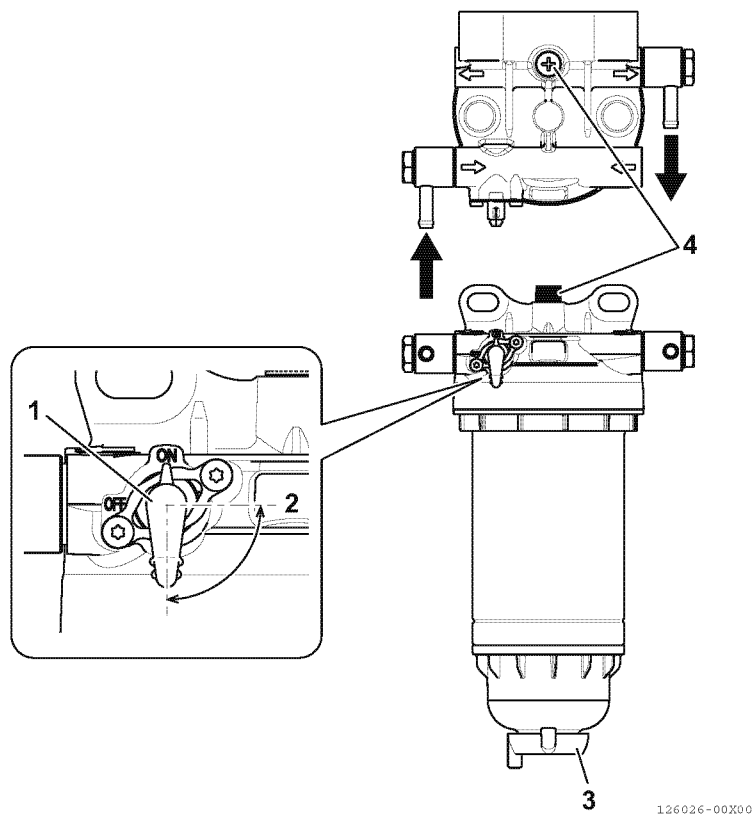

Fig. 00-41
2. Turn the fuel valve (1, Fig.00-41) to the position (2, Fig.00-41) to close it.
3. Loosen the drain plug (3, Fig.00-41) at the bottom of the water separator by hand, and drain water. If no water comes out, turn the air vent screw (4, Fig.00-41) at the top of the water separator counterclockwise 2 to 3 turns to loosen it.